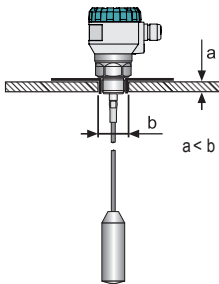

Fig. 8: Level meter installation on the roof of the concrete silo
- When installing the level meter into the roof of a concrete silo, the level meter installation hole must be larger than the thickness of the concrete a , see fig. 8.